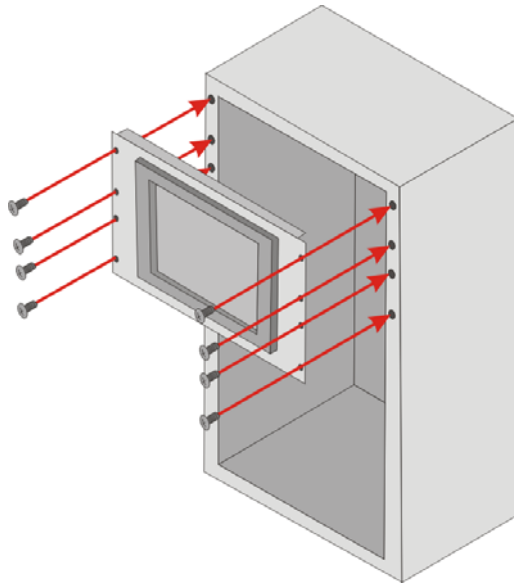

Figure 2-18: Install into a Rack/Cabinet
Step 4: Slide the panel PC with the attached rack/cabinet bracket into a rack or cabinet (Figure 2-18).
Step 5: Once the panel PC with the attached rack/cabinet bracket has been properly inserted into the rack or cabinet, secure the front of the rack/cabinet bracket to the front of the rack or cabinet (**Figure 2-18**).